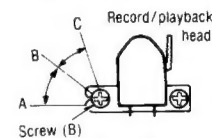
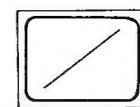

Fig. 3
Fig. 6
2. Playback the 8kHz signal from the test tape (QZZCFM). Adjust screw (B) in fig. 3 for maximum output L-CH and R-CH levels. When the output levels of L-CH and R-CH are not at maximum at the same point adjust as follows.
3. Turn screw (B) shown in fig. 3 to find angles A and C (points where peak output levels for left and right channels are obtained). Then, locate angle B between angles A and C, i.e., point where L-CH and R-CH outputs are balanced. (Refer to figs. 3 and 4.)
5. Playback the 8kHz signal from the test tape (QZZCFM). Adjust screw (B) shown in fig. 3 so that pointers of the two VTVMs swing to maximum and a lissajous waveform as illustrated in fig. 6 is obtained on the oscilloscope.